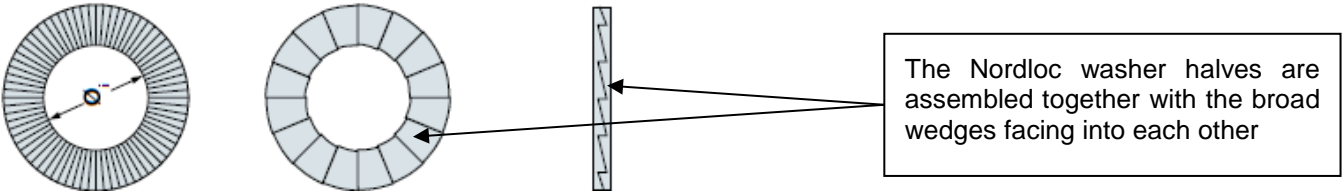

Figure 147 - Nordloc washer halves assembled
- A Nordloc washer pair features two separate halves. Ensure the two halves are installed with the broad wedges of each half contacting each other (not the thin wedges) see Figure 147.